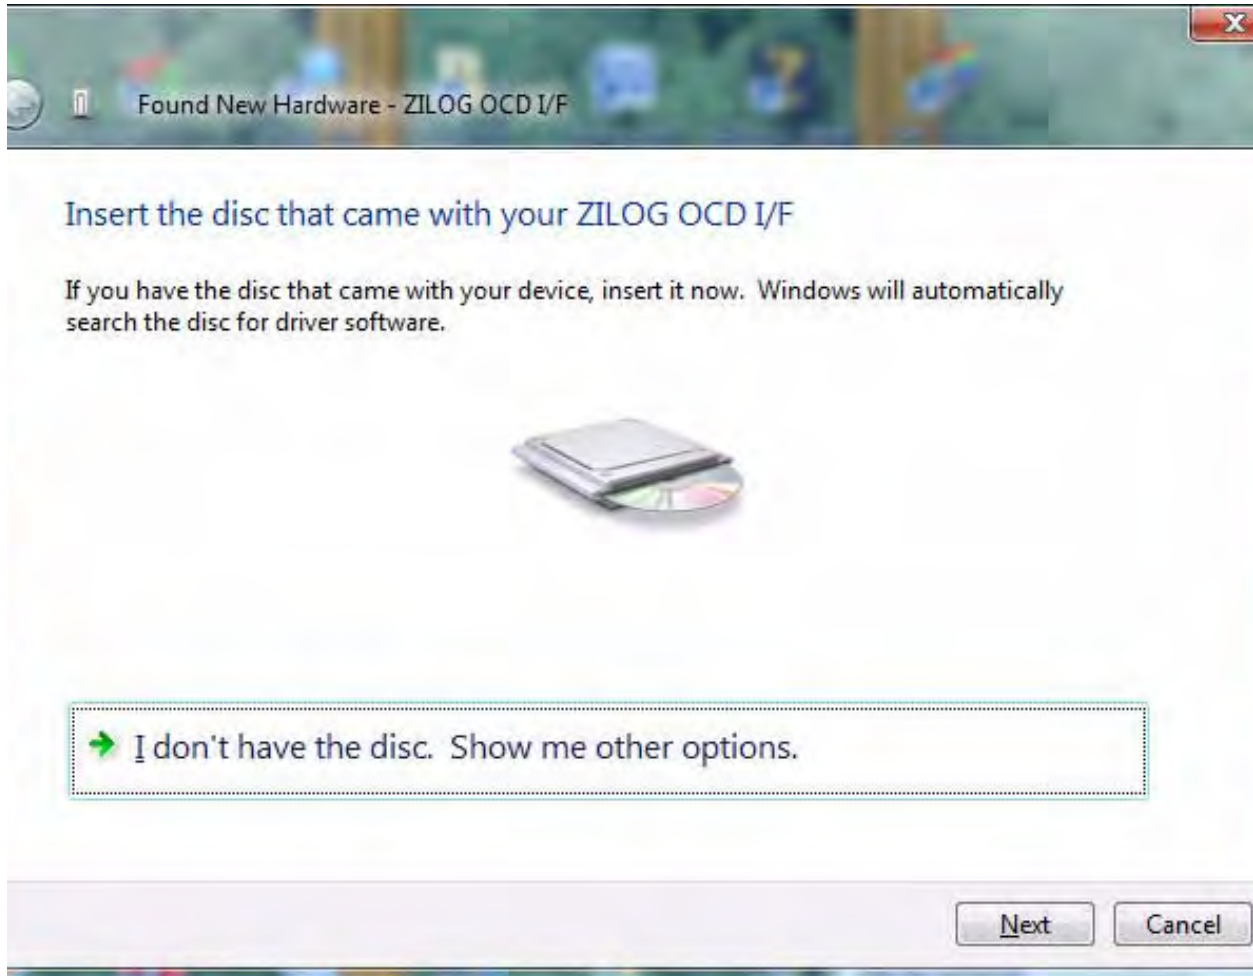
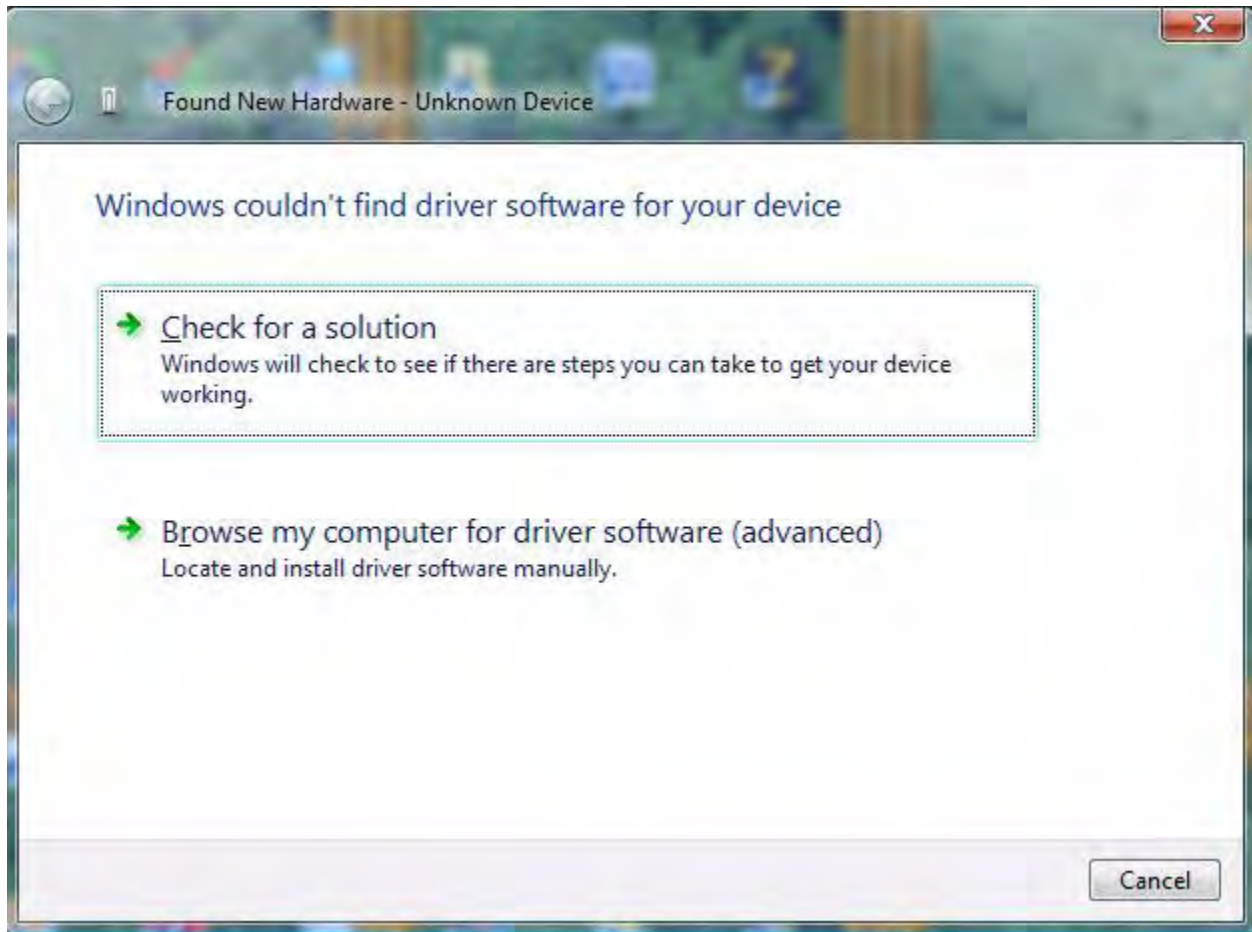

Figure 66. Install Device Driver Dialog, Windows Vista
Figure 67. Couldn't Find Driver Dialog, Windows Vista
4. When the **Insert the Disc** dialog appears, as shown in Figure 66, select **I don't have the disc. Show me other options.** Click the **Next** button to display the dialog that follows, which is shown in Figure 67.